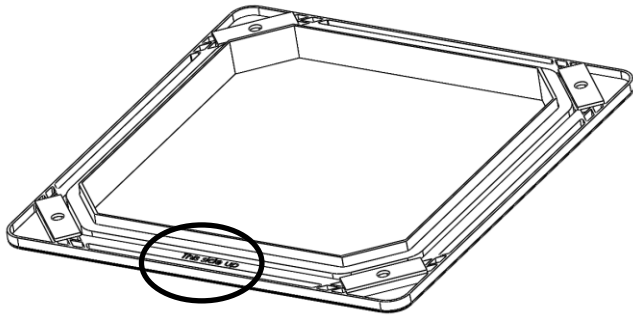

Figure 3 - Top side of weather collar showing THIS SIDE UP also has 4 grey foam strips around each bolt hole
- The collar has one side marked “THIS SIDE UP”. This **top side** will point to the sky. Figure 3